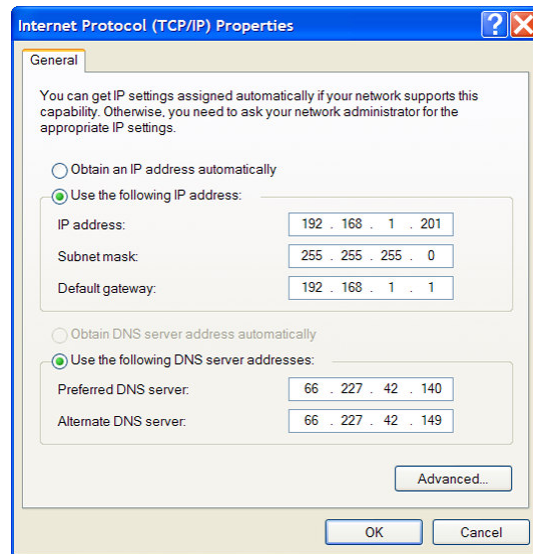

Figure 27. TCP/IP Properties Window
6. Obtain the desired network settings from your network system administrator or the manual of your router. To automatically obtain your network settings from a DHCP server, select **Obtain an IP address automatically**, as shown in Figure 27. To enter Static network settings, select **Use the following IP address**, then enter the IP, Gateway, and Netmask settings provided by your system administrator. If you are using a crossover cable, use the settings described in **Section 6.1**.